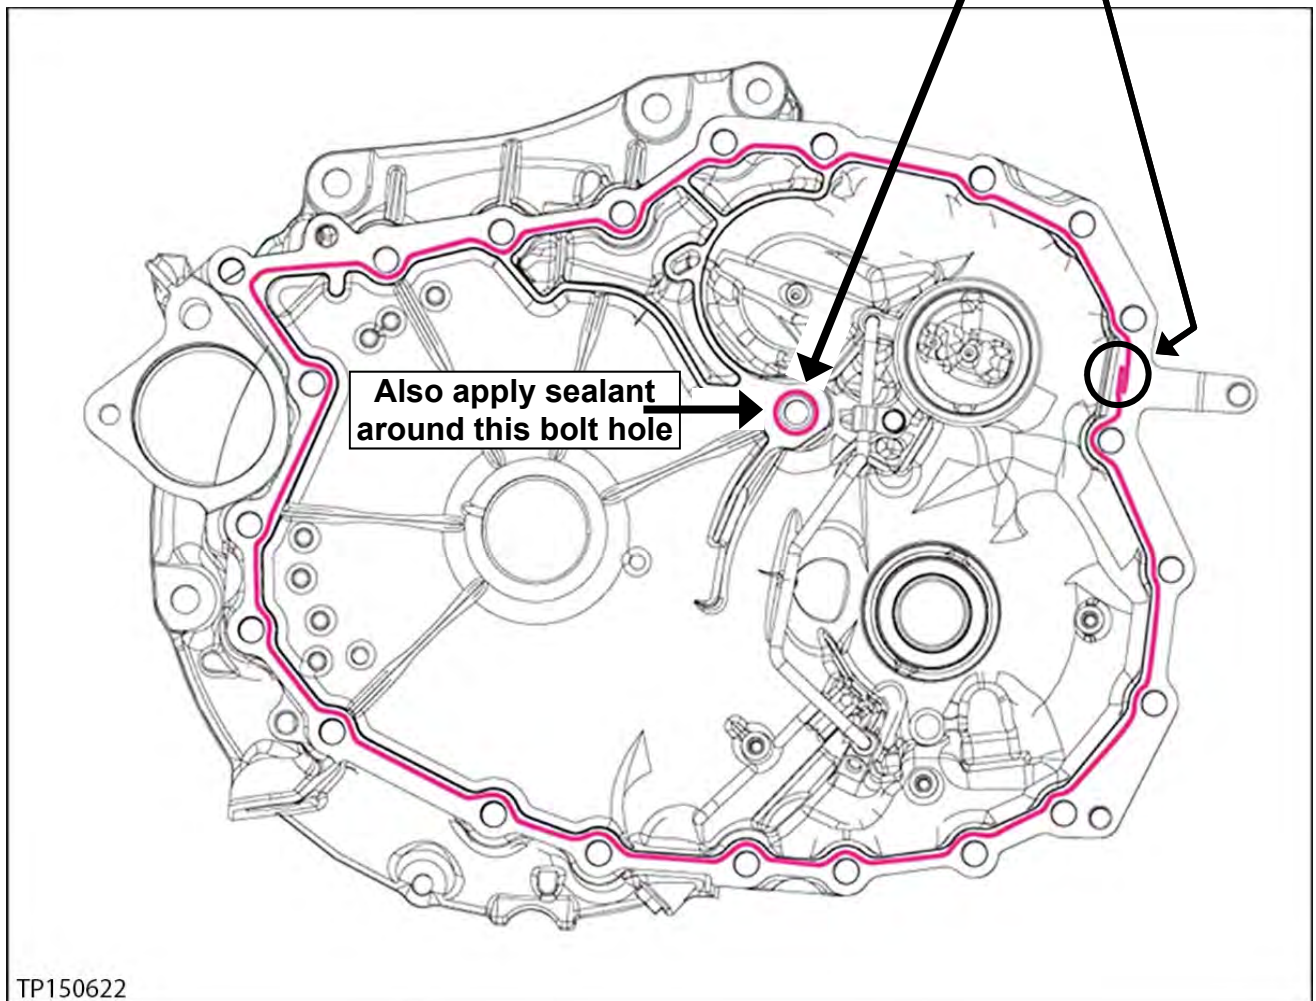

Figure 171
140. Apply one continuous 2.0 mm (**0.8 inches**) diameter bead (Figure 171) of pink colored Loctite 5460 Sealant (see the Parts Information section of this bulletin).
- Before sealant application, make sure the mating surfaces are clean from oil, dirt, old sealant, etc. (Figure 171).